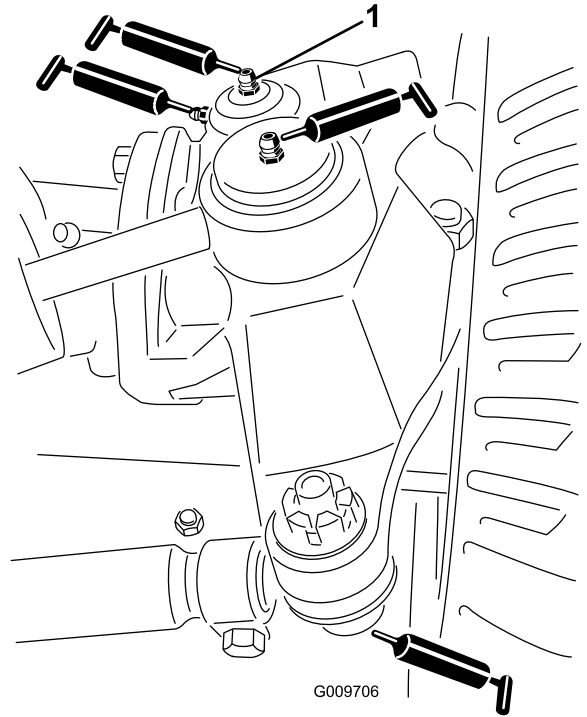

Figure 81
- Steering cylinder ball joints (2) (Figure 81)
- Tie rod ball joints (2) (Figure 81)
- King pin bushings (2) (Figure 81). **The top fitting on the king pin should only be lubricated annually (2 pumps).**